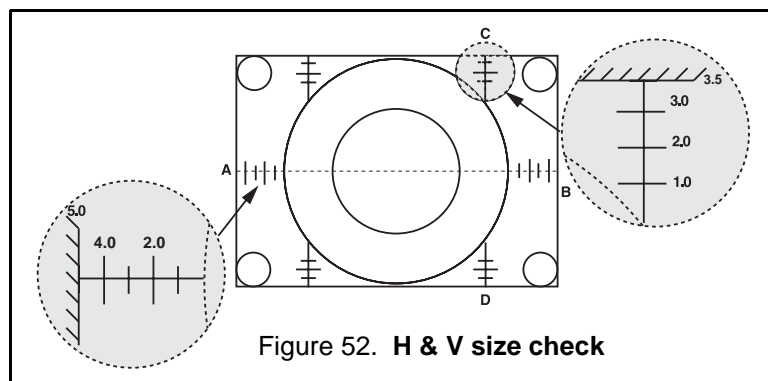

Figure 52. H & V size check
2. Confirm that horizontal size is 5 ± 0.2 lines at "A" and "B" and that vertical size is 3.5 ± 0.1 lines at "C" and "D" as indicated in Figure 52 with digital